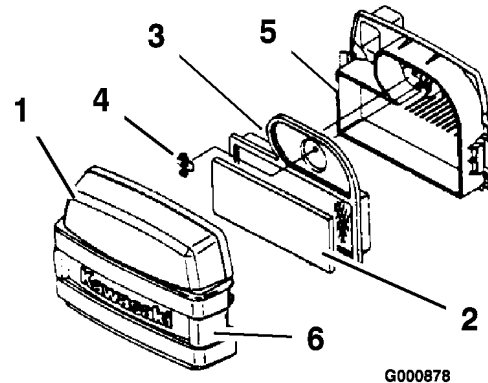

Figure 20
- Clean around the air cleaner to prevent dirt from getting into the engine and causing damage. Unlatch the two side latches and remove the air cleaner cover (Figure 20).
- Carefully remove the foam element from the paper element (Figure 20).
- Unscrew the wing nut and remove the paper element (Figure 20).